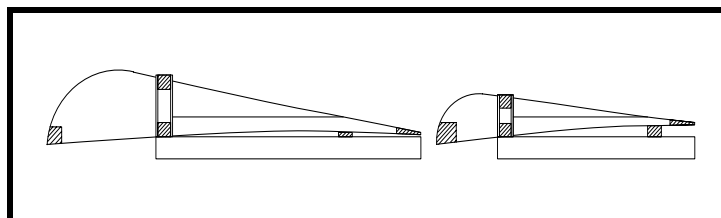
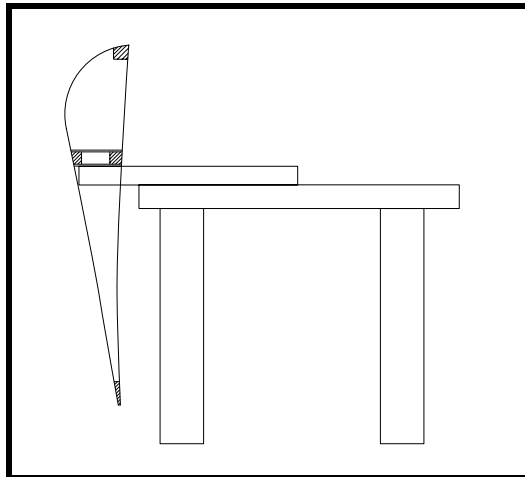

Figure 12
Figure 14
- ❑ Use an 18 to 20mm wide ruler—or some other parallel-edge device—to draw a horizontal line on the outboard face of Sta. 14 rib and on the inboard face of Sta. 2 rib as shown in Figure 12. This line is parallel to the top of the jig table, thus it is also parallel to the horizontal reference line for each rib. This line will be used as a cross-check to assure alignment while skinning. As you will see in the following steps, the line must be above the trailing edge strip to use a plumb line—you can't hang a plumb line *through* the trailing edge strip.
- ❑ Screw a number of 20x20 pieces of scrap wood to the jig table and clamp the aileron/flap assembly to them as shown in Figure 14. Make sure the spar is straight. Hang plumb lines from each end rib to check for alignment. The plumb line is compared with the line drawn in Figure 12. (Because of the angle of the ribs, the plumb line at Sta. 2 must be offset slightly from the rib.) The 20x20 pieces must be long enough for you to get a clamp between the jig table and the spar so that you can clamp the spar to the 20x20s.